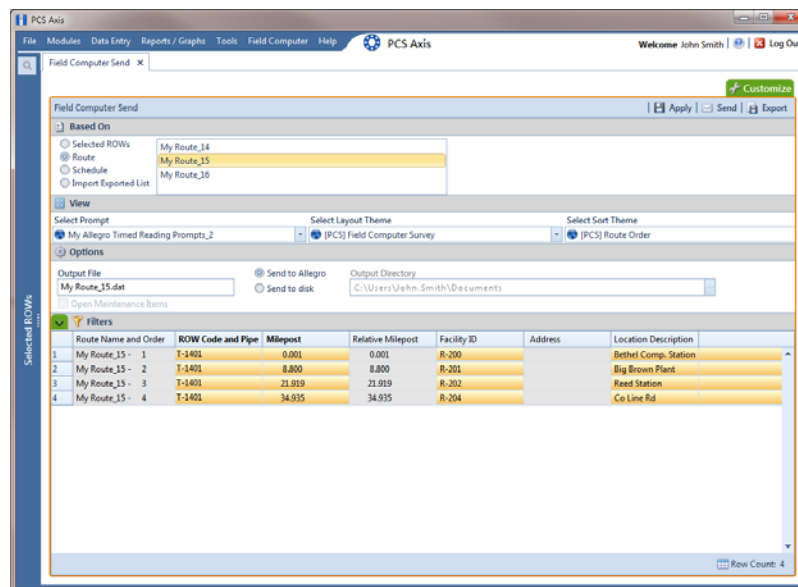

Figure 8-22. Field Computer Send
- 16 Click the **Route** option and select a route in the selection box. Then click  **Apply** to update the grid (Figure 8-22).
- 17 Click the down arrow in **Select Prompt** and select a theme with timed reading fields (Figure 8-22, page 370).